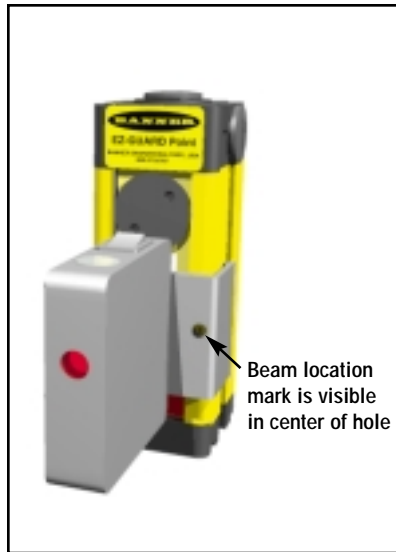

Figure 3-15. The LAT-1 Laser Alignment Tool, in position on the emitter beam
- 1) Attach the battery-powered LAT-1 to the housing of the emitter over the beam location, using the EZ-GUARD bracket clip included with the tool. A dot on the sensor housing next to the lens window indicates the beam's location. Align the hole on the LAT-1 over the beam marking (see Figure 3-15).